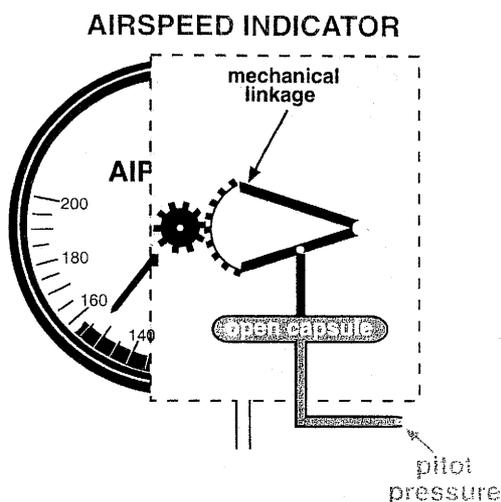

fig T53
**Airspeed Indicator (ASI):** See fig T53